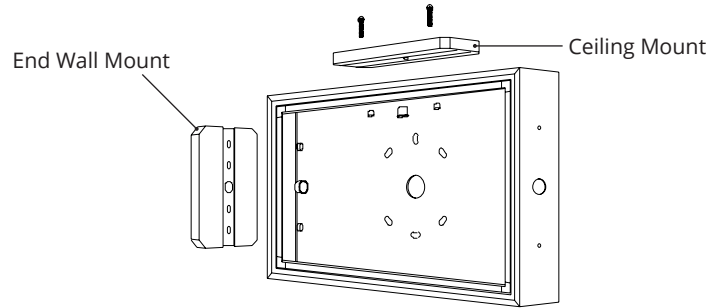

FIGURE 3
3. On the top and both sides of the exit there are three (3) holes for the canopy - two (2) for the mounting screws and one (1) wire pass-thru hole. Knock out the three appropriate canopy mounting holes for your installation (Figure 3).
4. Secure the canopy to the exit sign using the supplied 1 inch screws and washer nuts and the snap wire pass-thru hole plastic bushing into the wire pass-thru hole in the centre of the canopy (Figure 3).